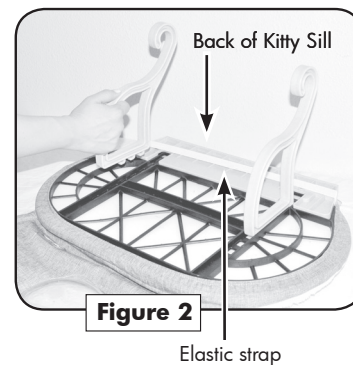
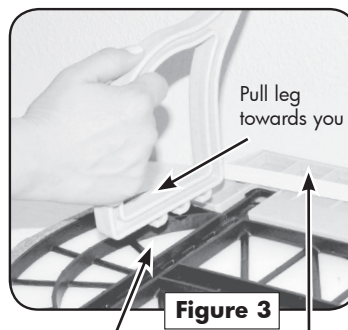

Figure 2
Figure 3
- 5** Next, turn the Kitty Sill upside down and locate the two legs. See **Figure 2** for the direction in which the legs should be installed on the bottom. Also, make sure the elastic strap is placed under the Kitty Sill to keep your cover in place. See **Figure 2**.
- 6** Make sure the leg is facing in the correct direction with its 3 pegs facing toward you and the back of the Kitty Sill facing away from you. See **Figure 2 and Figure 3**.
- 7** Insert the pegs into the holes and pull toward you until the leg snaps snugly into place. See directional arrow in **Figure 3**. You should hear a resounding snap. Repeat these steps with the second leg making sure to use the same hole placement as the first side.